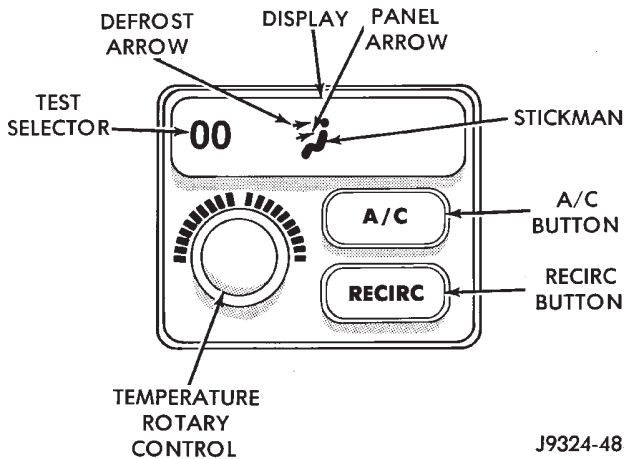

Fig. 16 Test Selector Values Between 200 and 255
(5) If the stick man panel (middle) and defrost (top) arrows are showing, the displayed Test Selector value will be a range of numbers between 200 and 255 (Fig. 16).